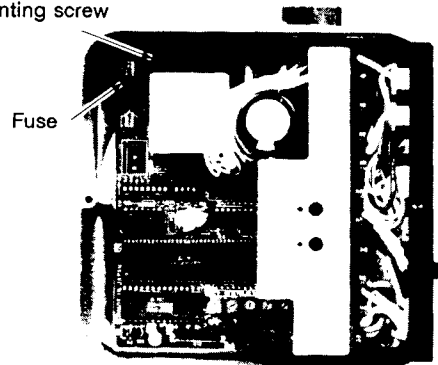

Fig. 40 Replacement of Fuse
- 3) Remove the mounting screws (at four places) of printed circuit board and disassemble the board. (See Fig. 40)
(3) Replacement of fuse (See Fig. 40)